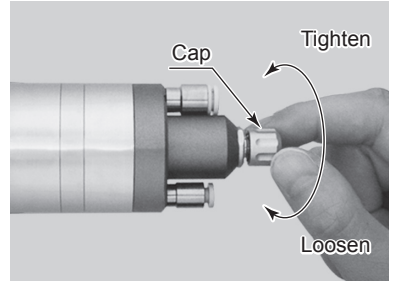

Fig. 16
- (1) Loosen the Cap pull out the Sensor Cable from the Wiring Connector straight (Fig. 16).